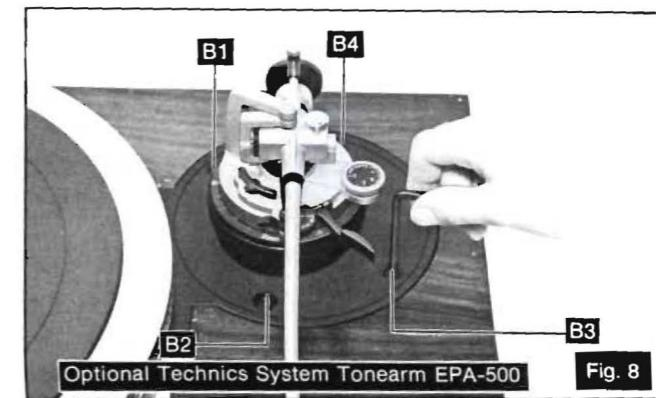

Fig. 8
4. Secure the arm panel with screws. (See Fig. 8.) Tightly secure the 4 positions (B1 to B4) with screws, using the furnished hexagonal wrench. After the above procedure, the mounting of the tonearm has been completed.